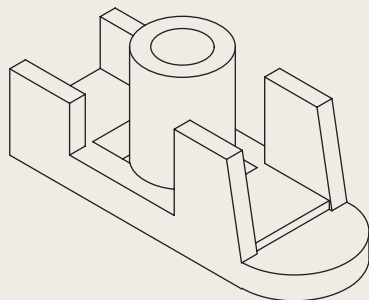

Fig. 8.19 Exercise 1 – a pictorial view
1. Figure 8.19 is a pictorial drawing of the component shown in the three-view orthographic projection Fig. 8.20. Construct the three views but with the front view as a sectional view based on the section plane **A–A**.